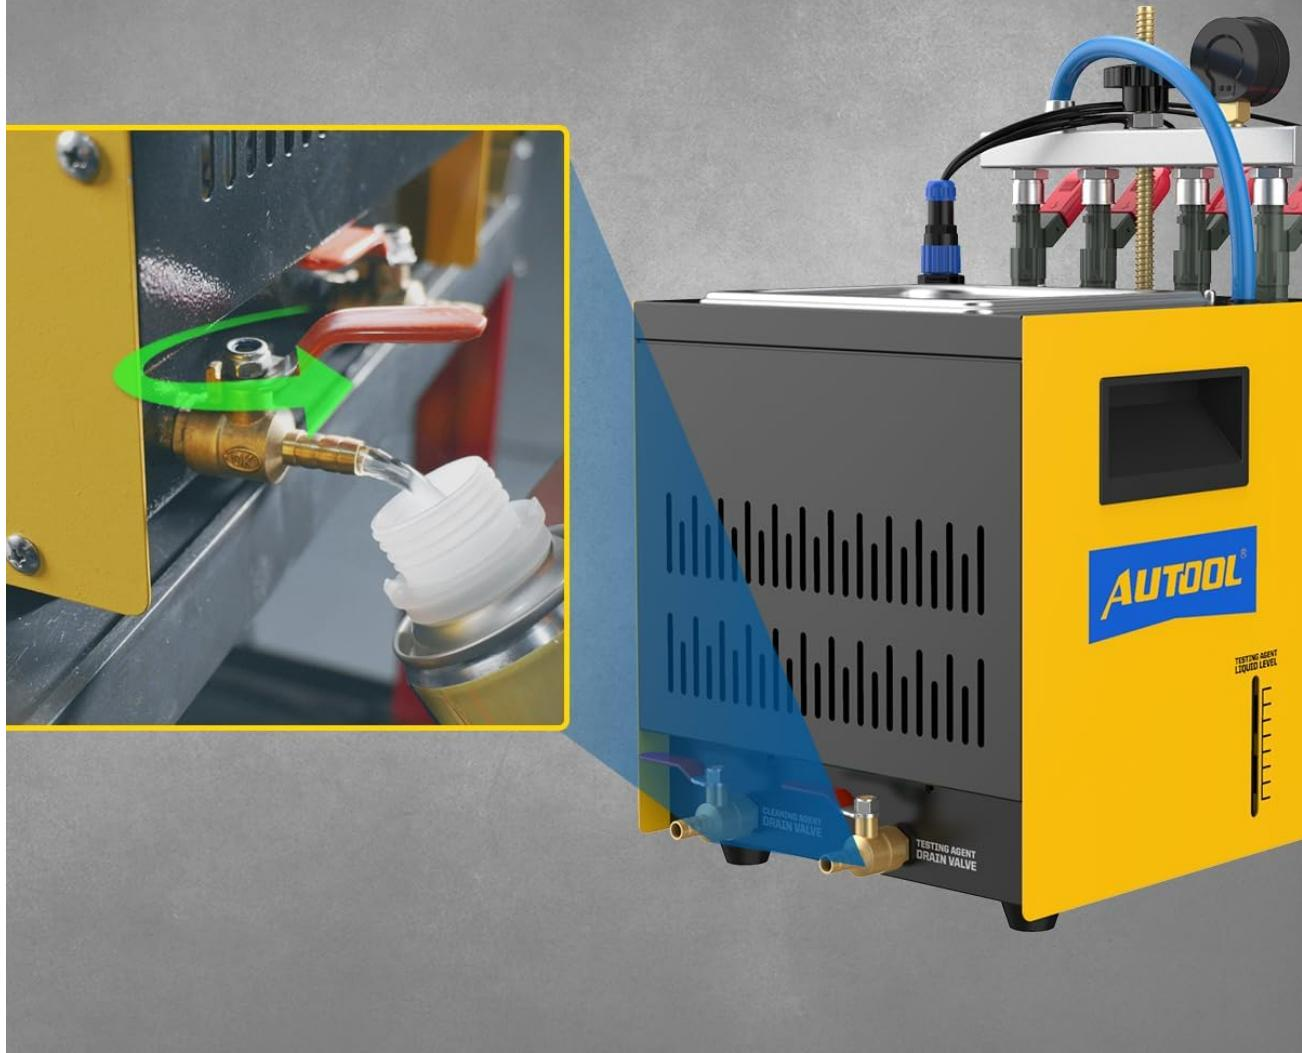

Figure 4: Drain Valve for Fluid Management.
- Fluid Management:** After each use, especially after cleaning, drain the used cleaning and test fluids using the drain valves (refer to Figure 4). Dispose of fluids according to local environmental regulations.